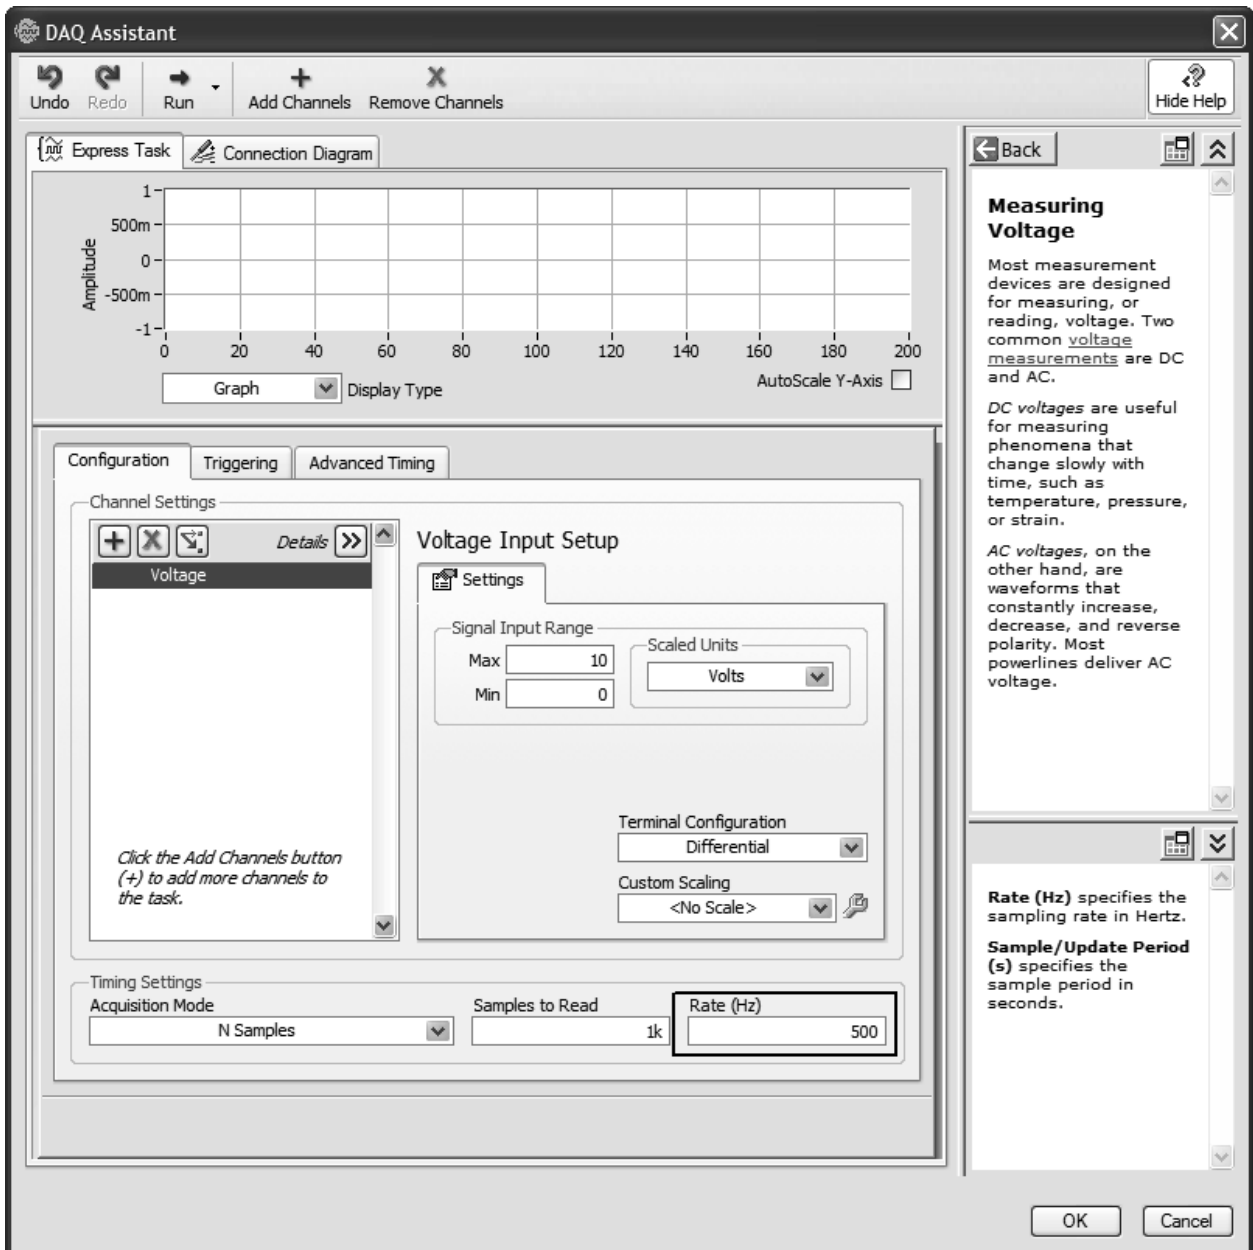

Figure 5.32
Next, the DAQ Assistant opens (Figure 5.32); it looks a lot like the task editor in the Measurement and Automation Explorer.
In the example shown in Figure 5.32, the task has been set up to collect 1000 samples at a rate of 500 samples per second when the task is called. When the OK button is clicked to close the DAQ Assistant, the DAQ Assistant Express VI appears on the block diagram, as shown in Figure 5.33. If you need to modify the task configuration, double-click on the DAQ Assistant icon to open the DAQ Assistant dialog.
- **Number of Samples**—the number of samples to be collected each time the task is called. This value was set using the DAQ Assistant dialog (1000 in Figure 5.32).
- **Rate**—the sample rate in Hz. Also set using the DAQ Assistant dialog (500 in Figure 5.32).